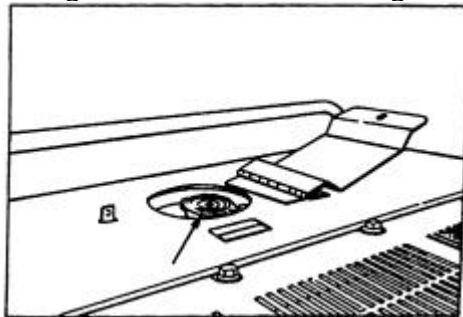

Fig. 5.17. Radiator Cap
1. Remove the radiator cap (Figure 5.17) as outlined above.